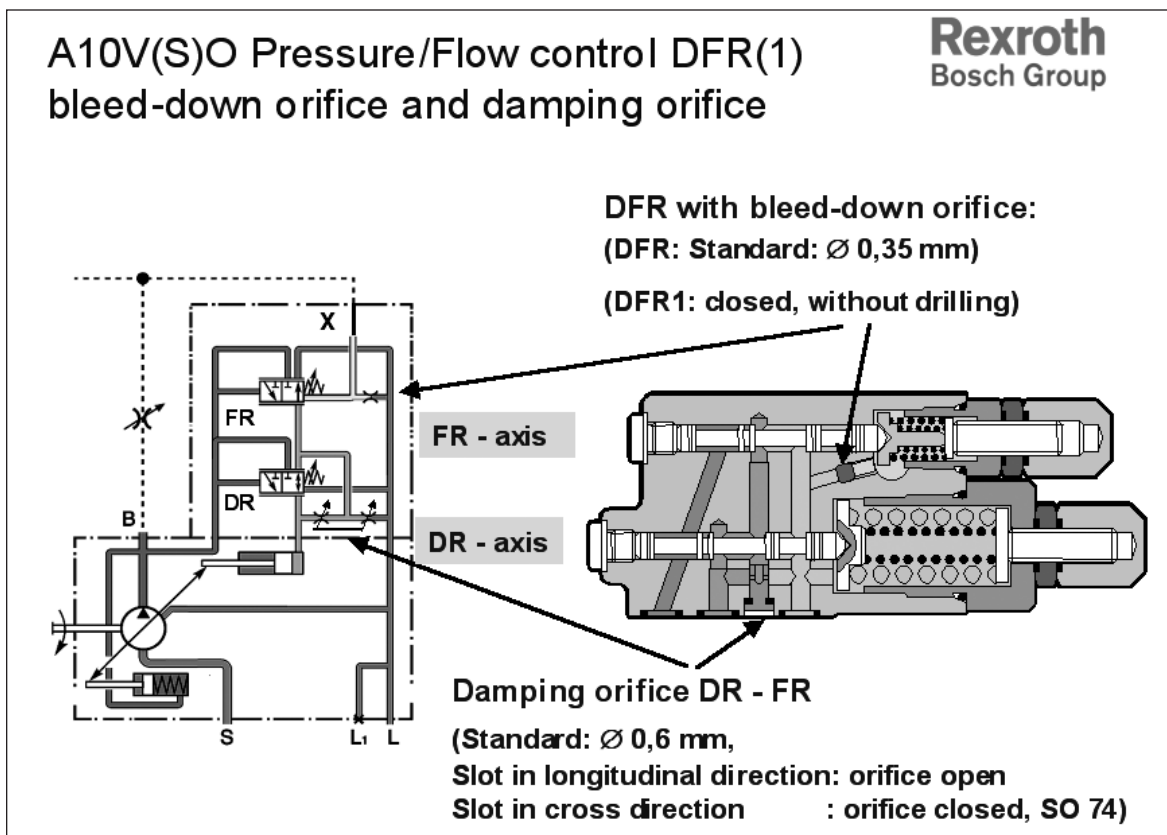

Figure 12
- Locate allen head 2mm (orifice) inside housing (see Figure 12)